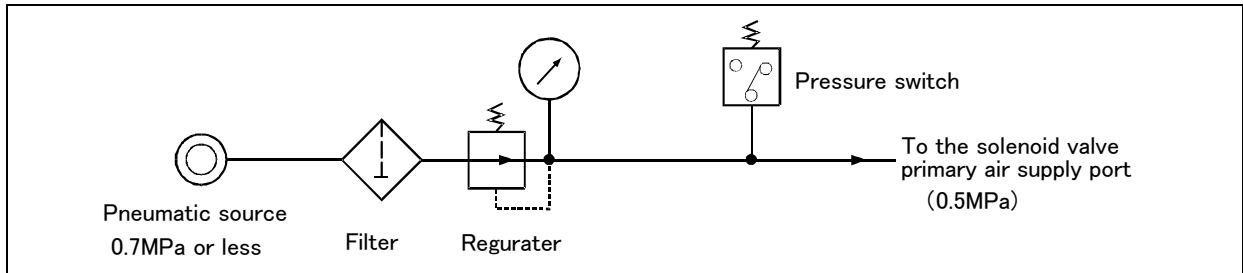

Fig.2-10 : Air supply circuit example for the hand
Fig. 2-10 shows an example of pneumatic supply circuitry for the hand.
- (1) Place diodes parallel to the solenoid coil.
- (2) When the factory pneumatic pressure drops, as a result of the hand clamp strength weakening, there can be damage to the work. To prevent it, install a pressure switch to the source of the air as shown in Fig. 2-10 and use the circuit described so that the robot stops when pressure drops. Use a hand with a spring-pressure clamp, or a mechanical lock-type hand, that can be used in cases where the pressure switch becomes damaged.
- (3) The optional hand and solenoid valve are of an oilless type. If they are used, don't use any lubricator.
- (4) If the air supply temperature (primary piping) used for the tool etc. is lower than ambient air temperature, the dew condensation may occur on the the coupling or the hose surface.